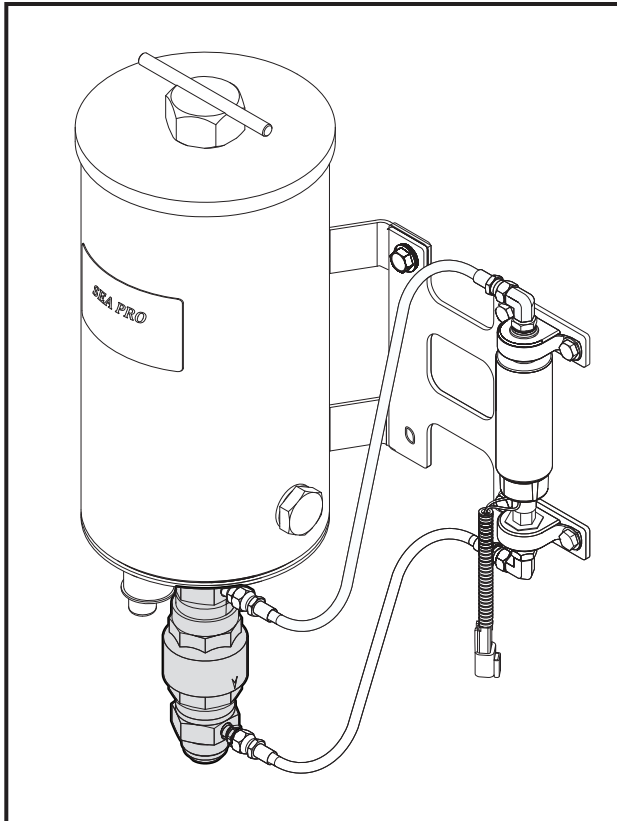
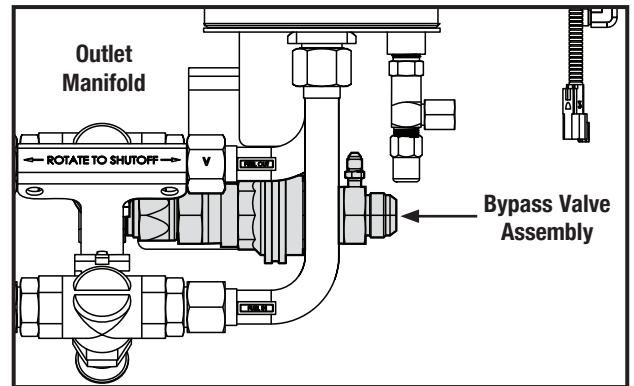

Figure 4 - Attaching the Bypass Single Unit
Figure 6 - Attaching the Bypass Valve (Duplex)
- Attach the Bypass valve to the fuel outlet fitting (on single units only) or the fuel outlet port (on units with manifolds) See Figure 4.
Note: The directional arrow on the Bypass Valve Must face away from the unit. See Figures 4 and 5.
- Torque the swivel fitting Bypass Valve to 115 ft-lb (193.0 N•m) for Single units (See Figure 4), or 50 ft-lb (67.8 N•m) for Duplex units. Rotate it to position. See Figure 6.